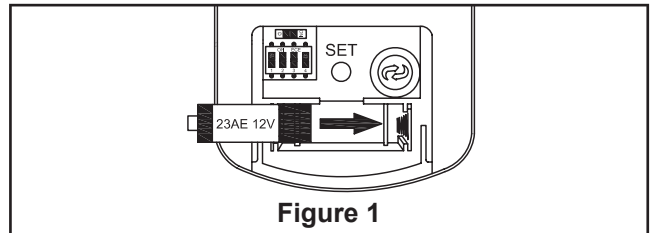

Figure 1
**1.** To make fan operational, install 23A/12V battery (included) in hand-held remote transmitter, with fan power off, arrange code switches to desired code setting. Then follow the remote code setting process. (If not used for long periods of time, remove battery to prevent damage to transmitter). Store the remote away from excessive heat or humidity (Figure 1).